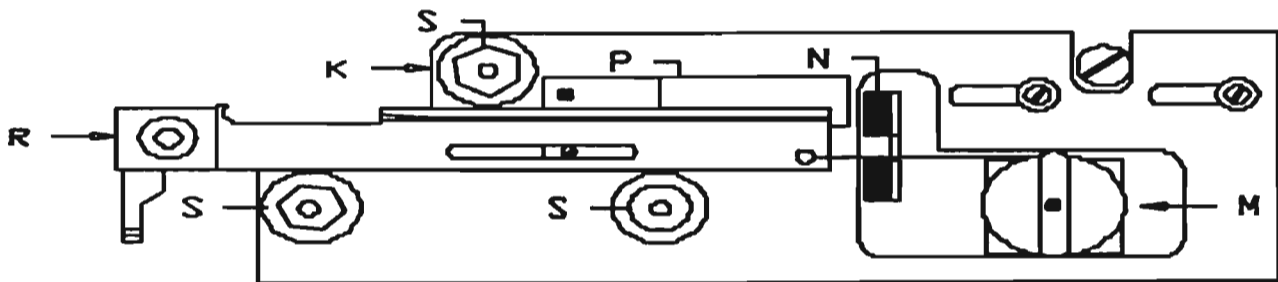

FIGURE 3
**PANELS, LEFT and RIGHT:** (Fig. 3, k) The panels are the angled surfaces that provide mountings for the puller bars and their bearings, the spring stops, the bumpers, and the upper cable pulley assemblies. Except for minor differences in shape, the left and right panels are identical. Note the three socket-head cap screws that attach each panel to the top. These screws are used to align the pullers bars. Their use, if necessary, is covered in the maintenance section.
**UPPER CABLE PULLEY ASSEMBLY:** (Fig. 3, m) This assembly conducts the pulling cables from the puller bars to the centrally located (and concealed) lower pulley assembly. Note that this assembly is attached to its panel by two screws, in slots, and contains a large eccentric adjustment screw (G). This eccentric screw is used to adjust cable 'tension' its use is covered in the maintenance section.
**BUMPERS:** (Fig. 3, n) The bumper stops the motion of its associated puller bar.
**SPRING STOP:** (Fig. 3, r) This assembly consists of the puller bar, glass clamp, clamp (wing) nut and cable retaining screw. The puller bar is made of mild steel and coated with a controlled thickness of hard chrome. Glass is loaded into the groove near the tip of the puller bar and is held in position by tightening down the clamp nut. The cable retaining screw holds the cable in a shallow groove at the end of the puller bar, and forms the 'resistance' against which the cable ends pull.
**V-BEARINGS:** (Fig. 3, s) These bearings are the guides for puller bar motion. They are made of stainless steel and should never be oiled (see maintenance section). Note that these bearings are mounted on stainless steel bushings one of which is round with the other two being hexagonal. The hexagonal bushings are used to adjust position and ease of travel of the puller bars (see maintenance section).